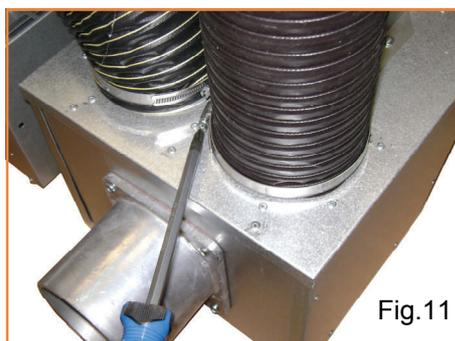

Fig.11
b) Fit one of the hose clips to the end of the flexible coupler. Slide the flexible coupler over the spigot on the heat exchanger then tighten the hose clip as shown in fig. 11.